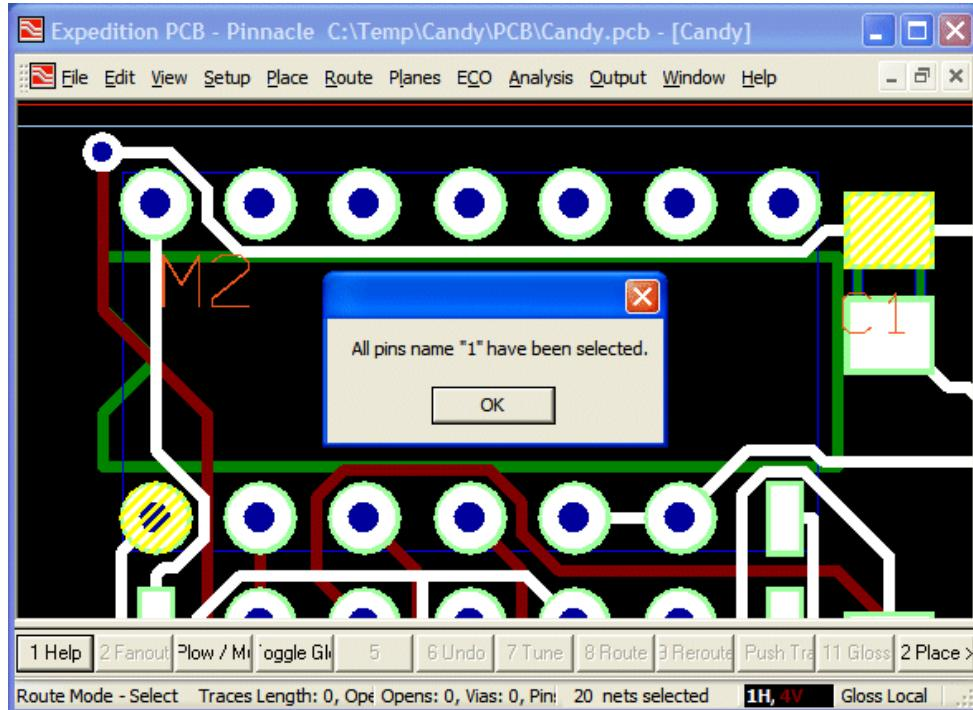

Figure 12-4. Result from Task #1 in the TraversePins.vbs script.
- 3) Drag the *TraversePins.vbs* script and drop it on top of the layout design document. Observe the *MsgBox()* associated with **Task #1** appear as illustrated in Figure 12-4. Also observe that one pin in the lower-left-hand corner of component M2 has been selected similarly one pin on capacitor C1 has been selected.